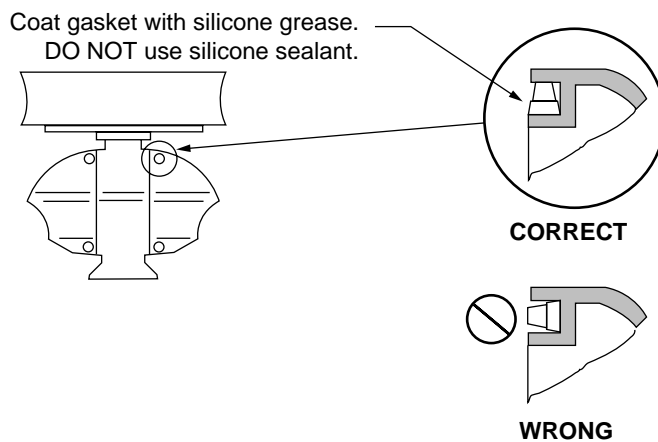

Figure 2-5 Correct seating of waterproofing gasket
13. Confirm that all screws are tightened and all wiring is properly made. Coat waterproofing gasket, bolts and tapping holes of antenna unit with silicone grease. Check that the waterproofing gasket is seated as shown in Figure 2-5. Close the antenna unit cover.